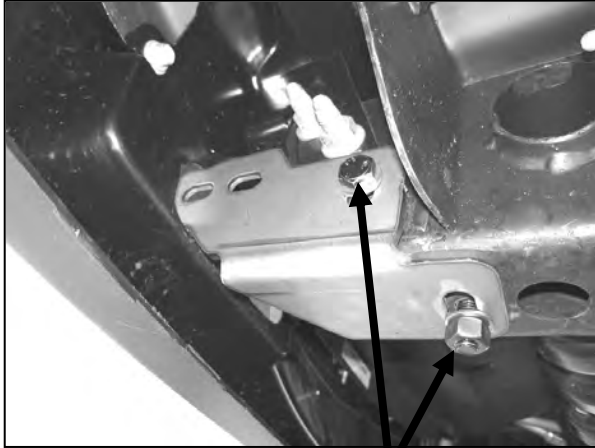

Figure 1
4. Determine driver and passenger Frame Brackets. **NOTE:** Refer to Figure above for bracket configuration. Position driver side Frame Bracket to the outside of the frame rail and secure using the included (2) 12mm x 35mm Hex Head Bolts, (2) 12mm lock Washers, (2) 12mm Hex Nuts, and (4) 12mm Flat Washers (**Figure 1**). Do not tighten at this time.